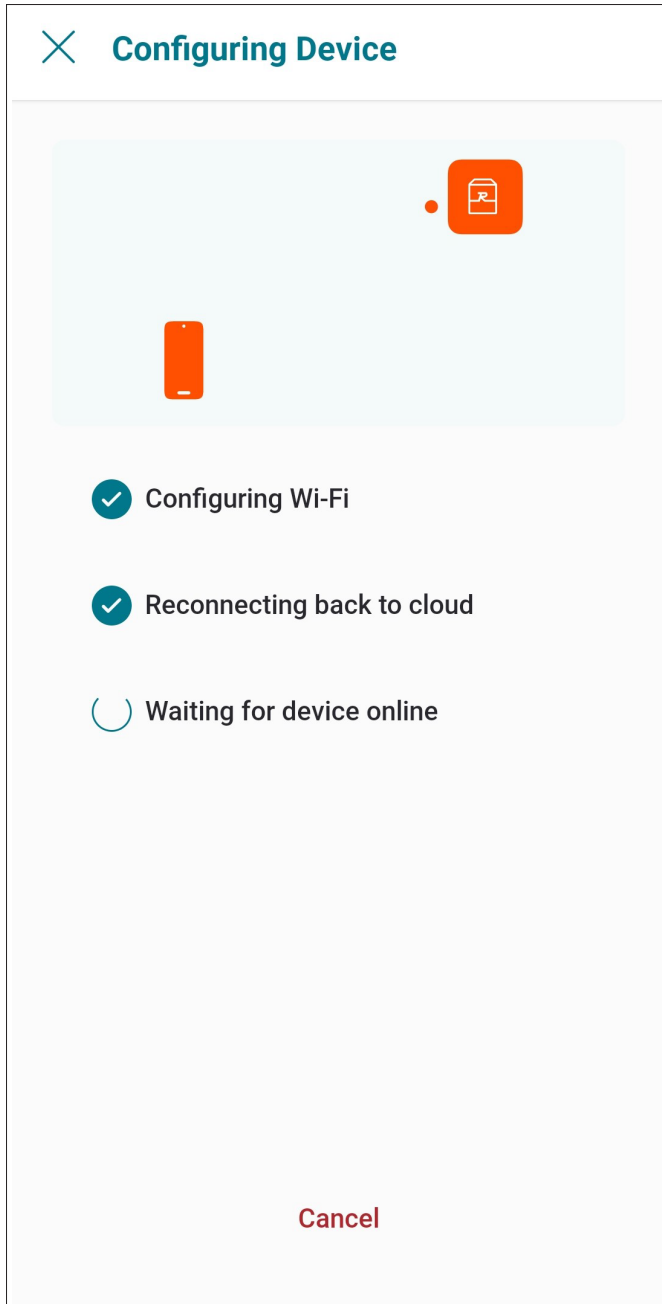

Figure 53. Configuring Device
2. Raymote app will provide the Wi-Fi credentials to your unit. This process may take a few seconds. See **Figure 53**.